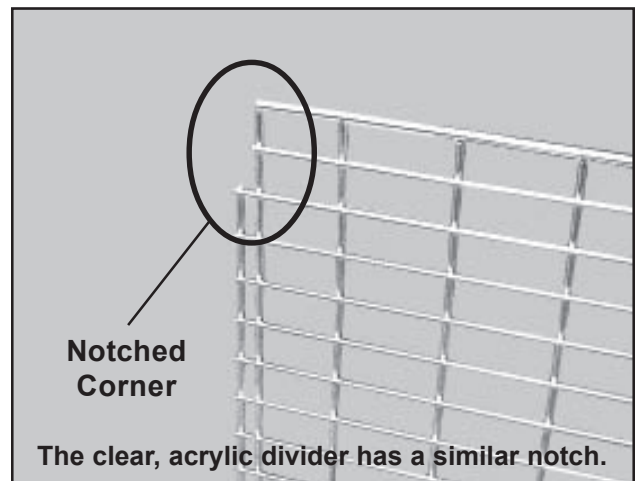

Figure 53. Notched Corner on the Wire Grill Divider Panel.
3. Orient the divider panel so that the notched corner is on top and toward the front (Figure 53).